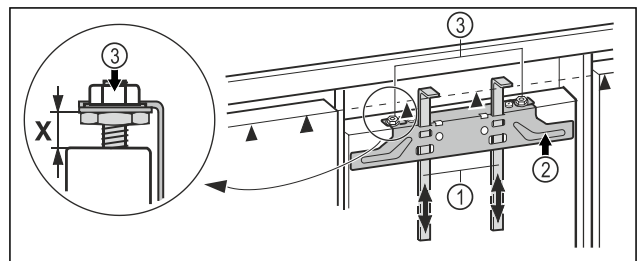

Fig. 19
- ▶ Push the assembly aids Fig. 19 (1) up to unit door height. Lower stop edge ▲ of the assembly aid = upper edge of the unit door to be assembled.
- ▶ Unscrew the fastening bar Fig. 19 (2) using the lock nuts Fig. 19 (3).